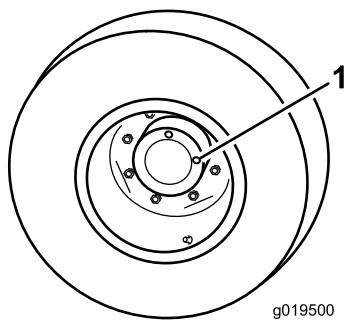

Figure 91
1. With machine on level surface, position the wheel so 1 check plug is at the 12 o'clock position and the other is at 3 o'clock position (Figure 91).
1. Check/drain plug (2)
2. Remove the plug at the 3 o'clock position (Figure 91).